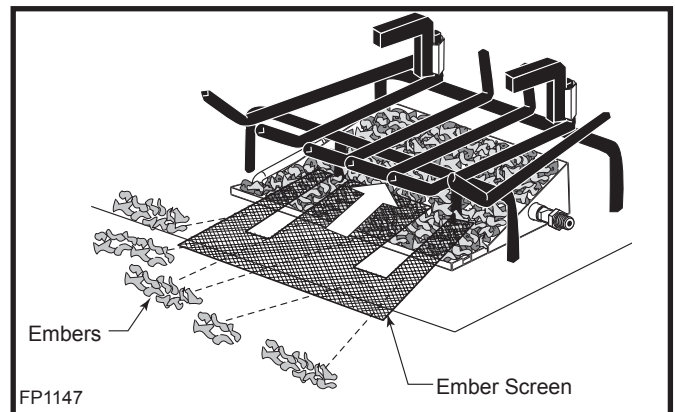

Fig. 10 Screen and ember placement.
3. Slide the mesh screen under the grate, but on top of glowing embers so the mesh piece covers the burner pan material. (Fig. 10)
4. Open remaining bag of embers and place evenly on top of mesh screen. (Fig. 10)